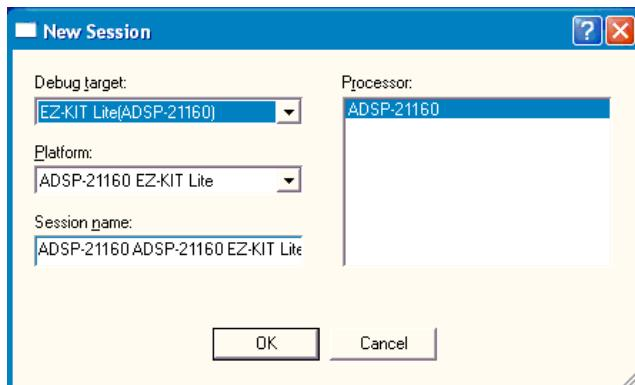

Figure 1-13. New Session Dialog Box
5. The New Session dialog box, shown in Figure 1-13, appears on the screen.